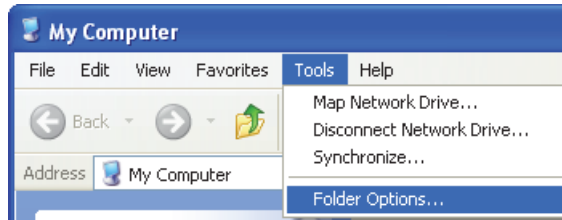

Figure 14-8 The Tools menu
- b) On the **Tools** menu, click **Folder Options** (see Figure 14-8 on page 290).